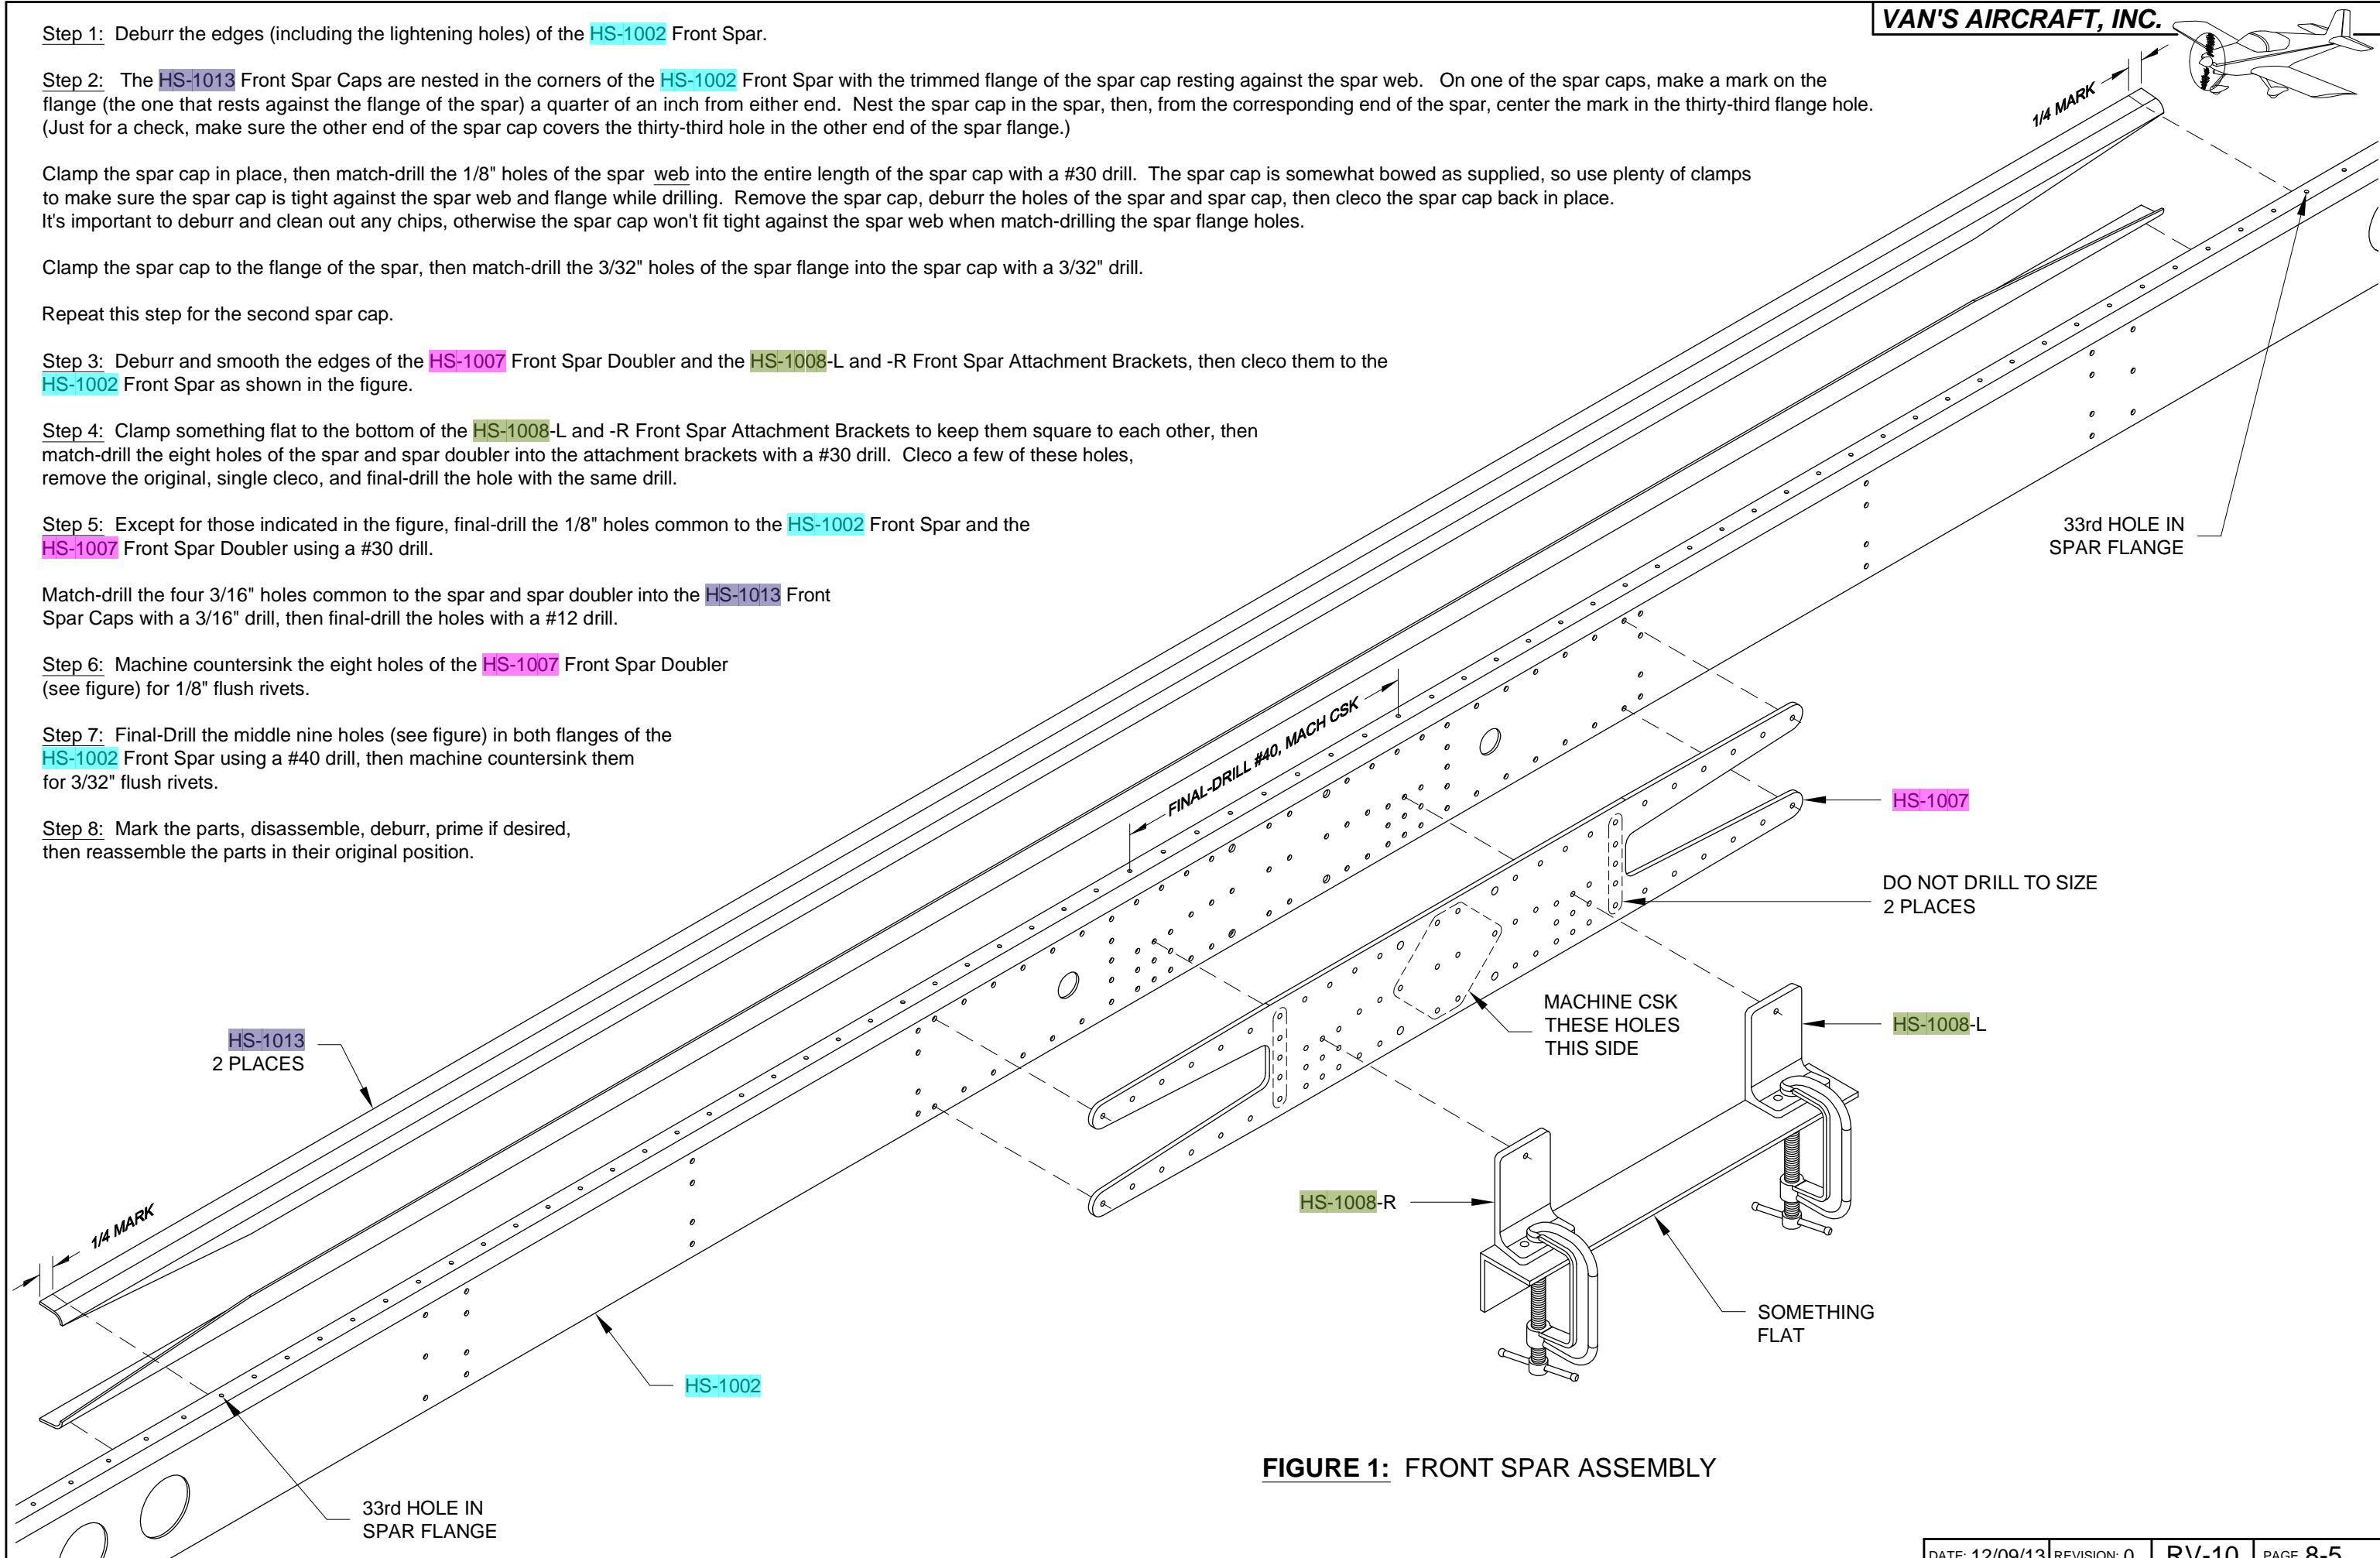

FIGURE 1: FRONT SPAR ASSEMBLY
Step 1: Rivet together the HS-1002 Front Spar, the HS-1007 Front Spar Doubler, the HS-1013 Front Spar Caps, and the HS-1008-L and -R Front Spar Attachment Brackets using the rivets shown in Figure 1. Install only the rivets shown in the figure. Tape over the open holes to keep yourself from accidentally riveting them.